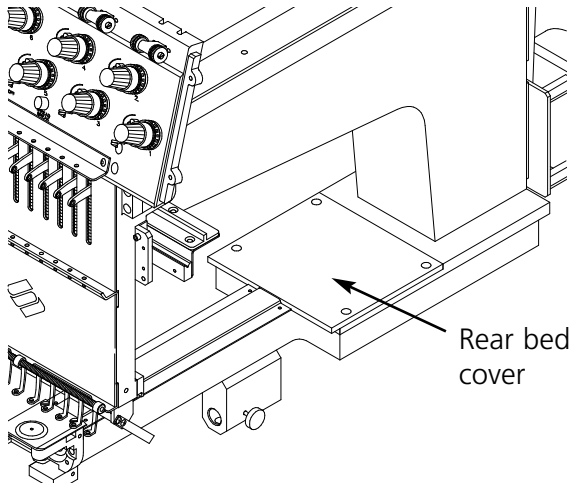
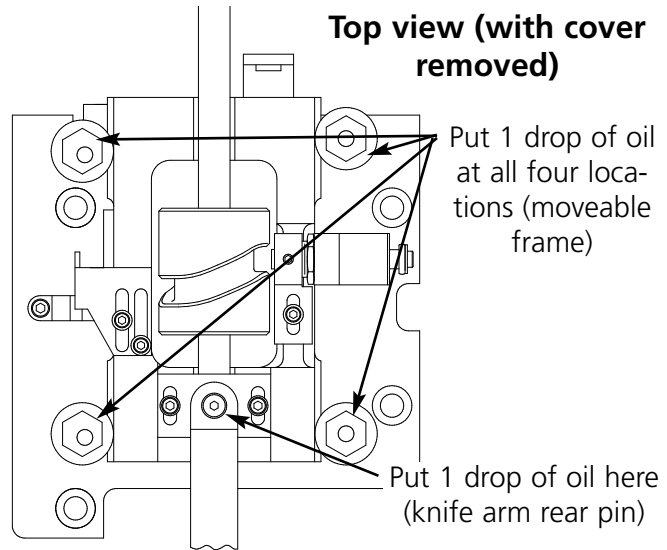

Figure 4-14
Figure 4-15
5. When **moveable frame, knife arm rear pin** displays, press . This moves the x/y axis to hoop center. Remove the rear bed cover (Figure 4-14). Refer to Figure 4-15 to lubricate the trimmer moveable frame and knife arm rear pin. Press  when done. Replace the rear bed cover.